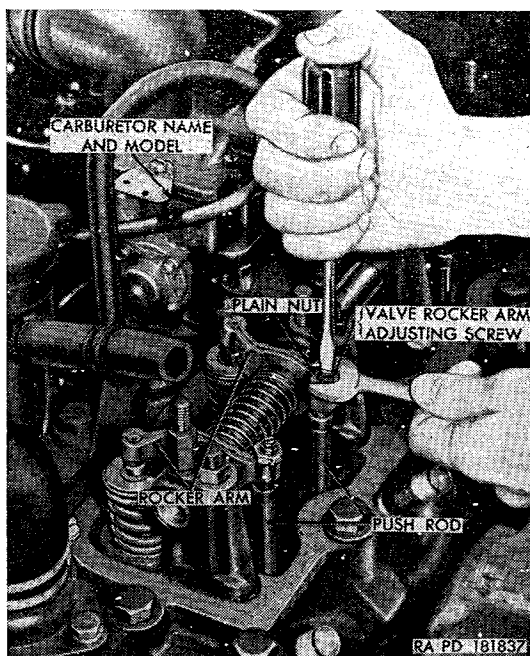

Figure 44. Adjusting intake valve clearance.
- (3) Adjust the valve clearance by loosening the plain nut on the valve rocker arm adjusting screw and turning the adjusting screw (fig. 44) in or out, as necessary, to obtain the proper clearance between the end of the valve stem cap and the rocker arm. Turn the screw clockwise to close the gap and counter-